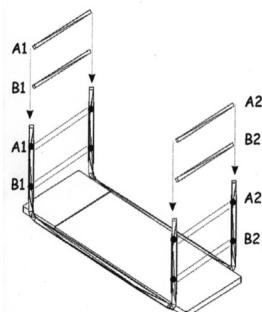

Fig. 3
- Proceed with insering of the screws (Fig. 3).